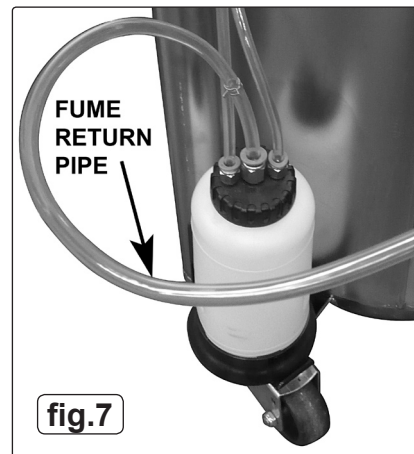

fig.7
4.16 **Fume venting system.** The fume venting system is designed to protect the operator from fumes during operation of the unit. The fumes are collected at the top of the unit (see fig.3-12) and are fed through two plastic pipes to a small container mounted at the bottom of the unit (see fig.3-8 and fig.7). Small amounts of fuel will condense in this container before the fumes are fed through the fume return pipe back to the source tank/vehicle. Periodically check the fume container for accumulated fuel and empty it if the container is more than 1/3 full. Dispose of any fuel according to local authority regulations.